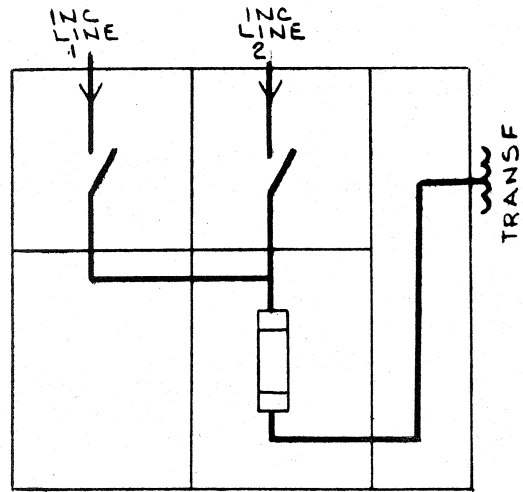

FIG. 5
**LVPD Double Break Air-Interrupter Switch - Fig. 5**